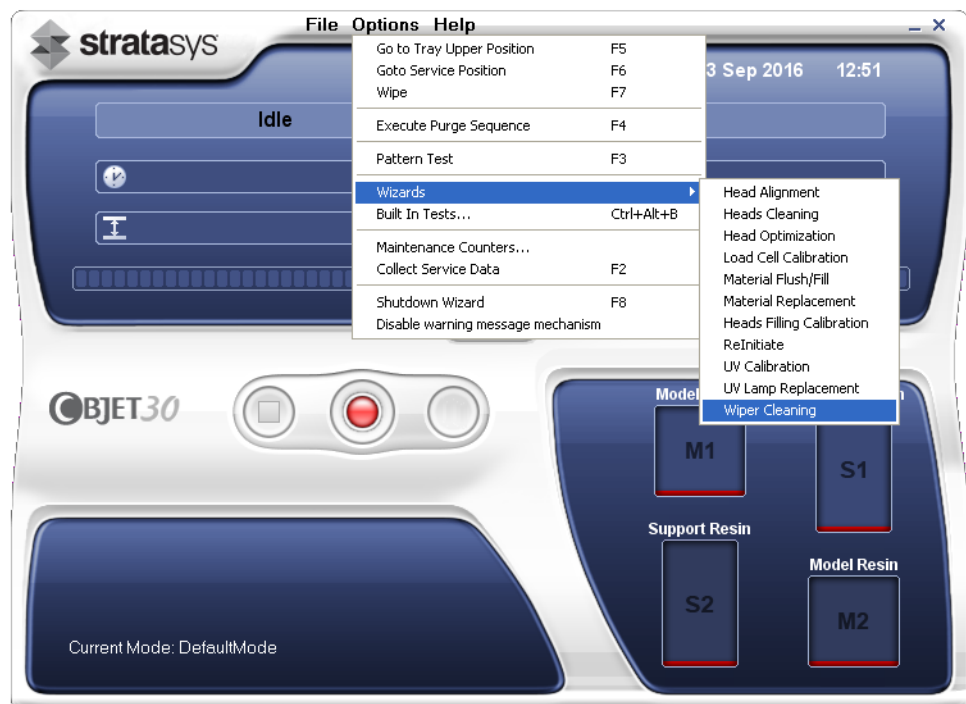

Figure 6-35 Starting the Wiper Cleaning wizard
2. Start the Head Cleaning wizard from the *Options* menu (see Figure 6-35 on page 6-31).